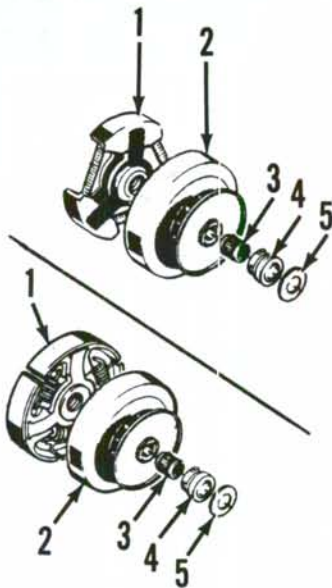

Fig. H44—Exploded view of two different styles of clutch assemblies. Notches on back of clutch drum (2) engage dogs on oil pump drive gear (4).
**CLUTCH.** All models are equipped with a three-shoe centrifugal clutch (Fig. H44), which is accessible after removing chain brake assembly and chain guide bar. Clutch hub has left-hand threads (turn clockwise to remove).
driven by the clutch drum. Notches on the back of the clutch drum engage dogs on oil pump drive gear (4—Fig. H44) which rides on the crankshaft. The oil pump drive gear engages driven gear (9—Fig. H45) which is secured to